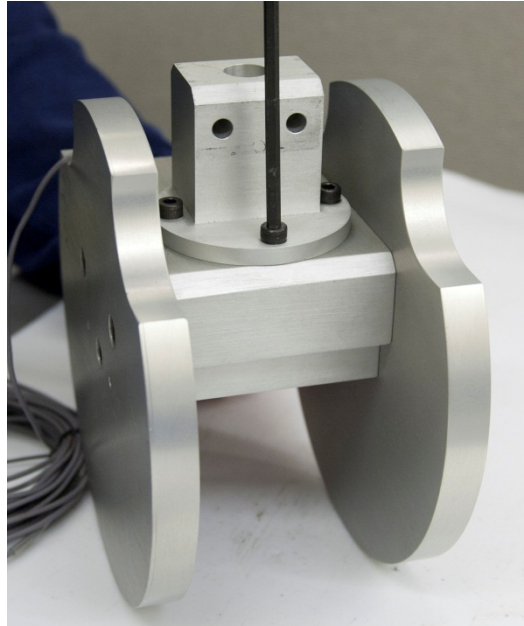

Figure 144. Install lumbar interface to headform
- Mount the lumbar load cell to the pendulum interface using four M5 x 12 FHCS (Figure 144). The back of the lumbar spine should be on the side opposite of the impact surface of the pendulum.